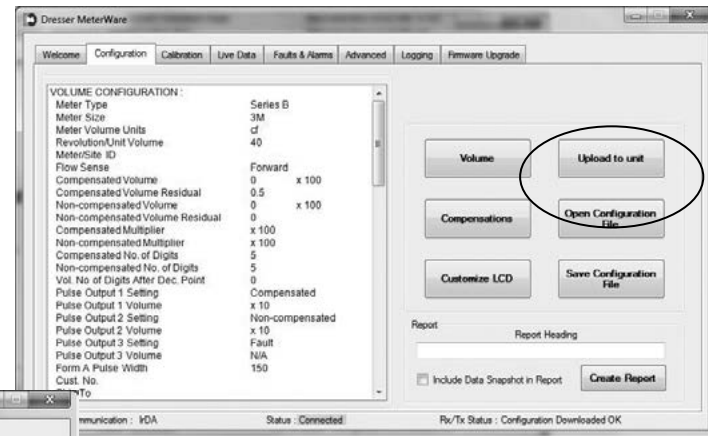

Figure 14.5 - Configuration screen in Dresser MeterWare
- C. Once back on the **Configuration** screen (Figure 14.5), click **Upload to unit**.